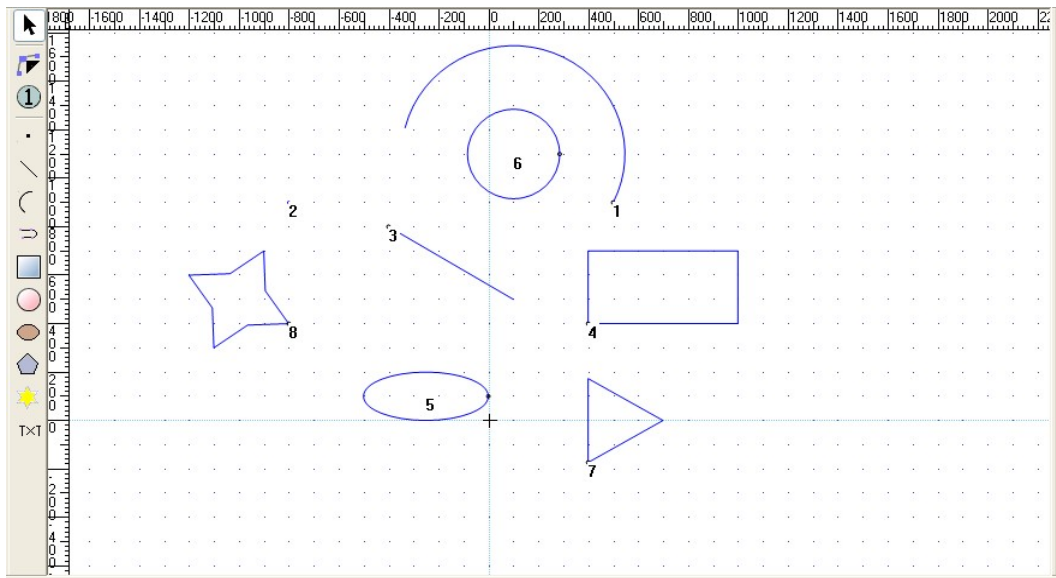

Fig. 10-53 Displaying the machining order of the objects
- Select [View Order] option under [View] or press the icon  on toolbar to display the machining order of the figures, see Fig. 10-53.